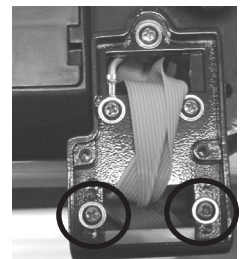

Fig. 1
3. Remove the two screws, located on either side of the data ribbon (see fig. 1).